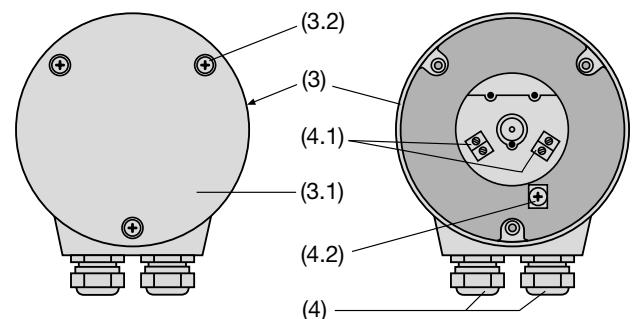

Fig. 6. Rear (3) with terminals (4.1) and (4.2) and cable glands (4).
In the case of transmitters fitted with **screw terminals** and **cable glands**, there are 4 screw terminals (4.1) plus 1 ground terminal (4.2) which are accessible after removing the cover (3.1) (see Fig. 6). The maximum wire gauge the terminals can accept is 1.5 mm².
- ... with **screw terminals** and **cable glands**, remove the 3 screws (3.2) and the cover (3.1) (Fig. 6, left).